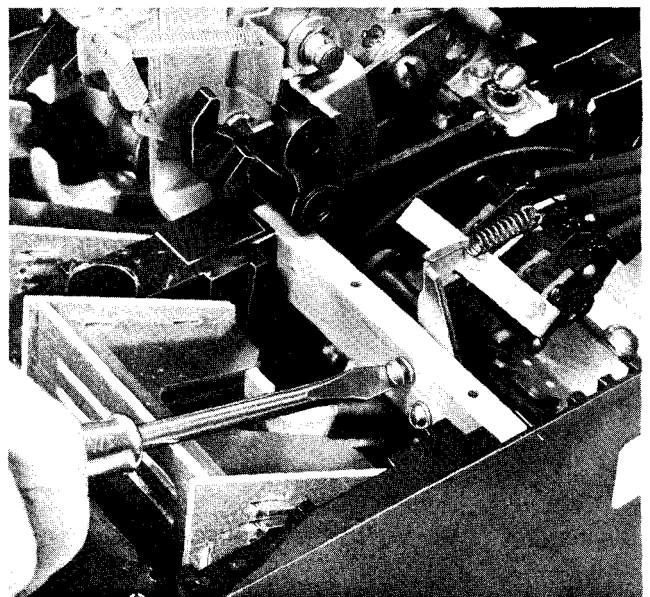

Fig. 9.
3. Mount cut-off switch by first depressing the switch actuator. Align tapped holes in switch bracket with holes in arm stop (left pole) and secure with No. 8 x 9/16 screws and lock washer. (Tighten to 23 inch pounds Fig. 9).